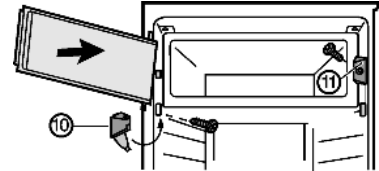

Fig. 7*
- ▶ Fit the closing element Fig. 7 (11).*
- ▶ Fit the turn hinge Fig. 7 (10) and fold the cover.*